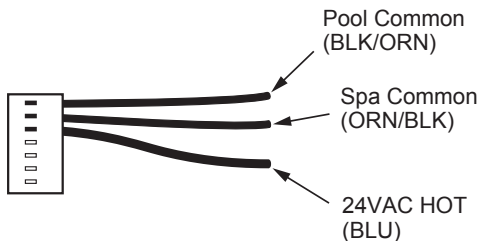

Figure 55. 7-Pin Remote Interface Harness
- On the “Remote Interface Harness”, connect the BLUE wire to one side of the “REMOTE” switch and connect the other side to either the ORANGE/BLACK wire for “SPA” operation or the BLACK/ORANGE wire for “POOL” operation. See **Figure 55**.
- On the “Remote Interface Harness” connect the BLUE wire to one side of the “REMOTE” switch and connect the ORANGE/BLACK wire for “SPA” operation and the BLACK/ORANGE wire for the “POOL” operation. See **Figure 55**.